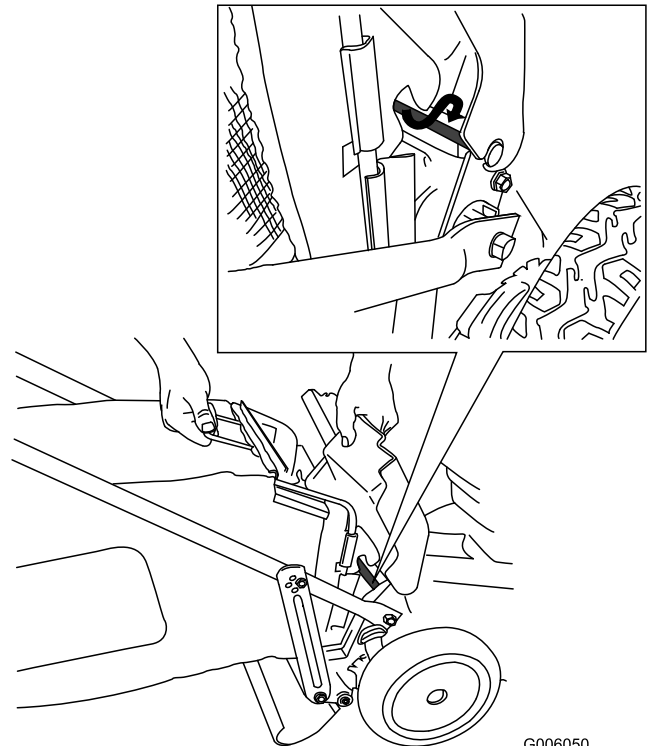

Figure 1
1. Raise and hold up the rear door (Figure 1).
3. Install the bag onto the door rod (see inset in Figure 1).